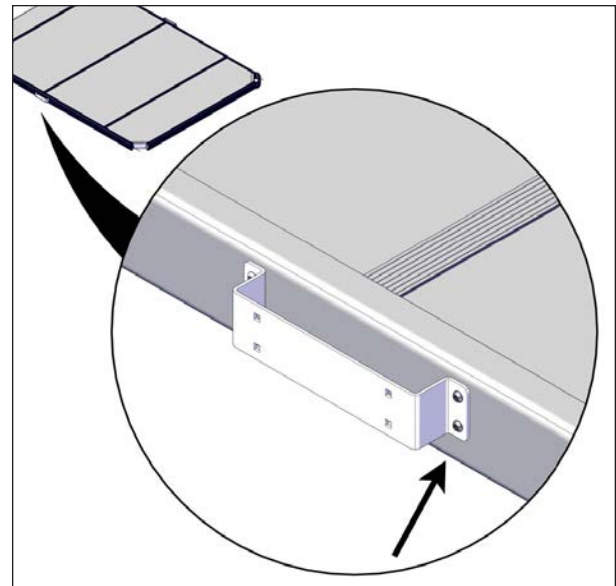

FIGURE 53: SUPPORT BRACKET SCREW TIGHTENING
- When the previous step is completed, use a 5/32" (4 mm) Allen key or Allen head wrench hex screwdriver bit to tighten the 1/4-20 x 1" round head screws on each sleeve mounting bracket and secure them well, see Figure 53. Those two screws need to be well tightened to keep the I-Beam seals compressed properly.